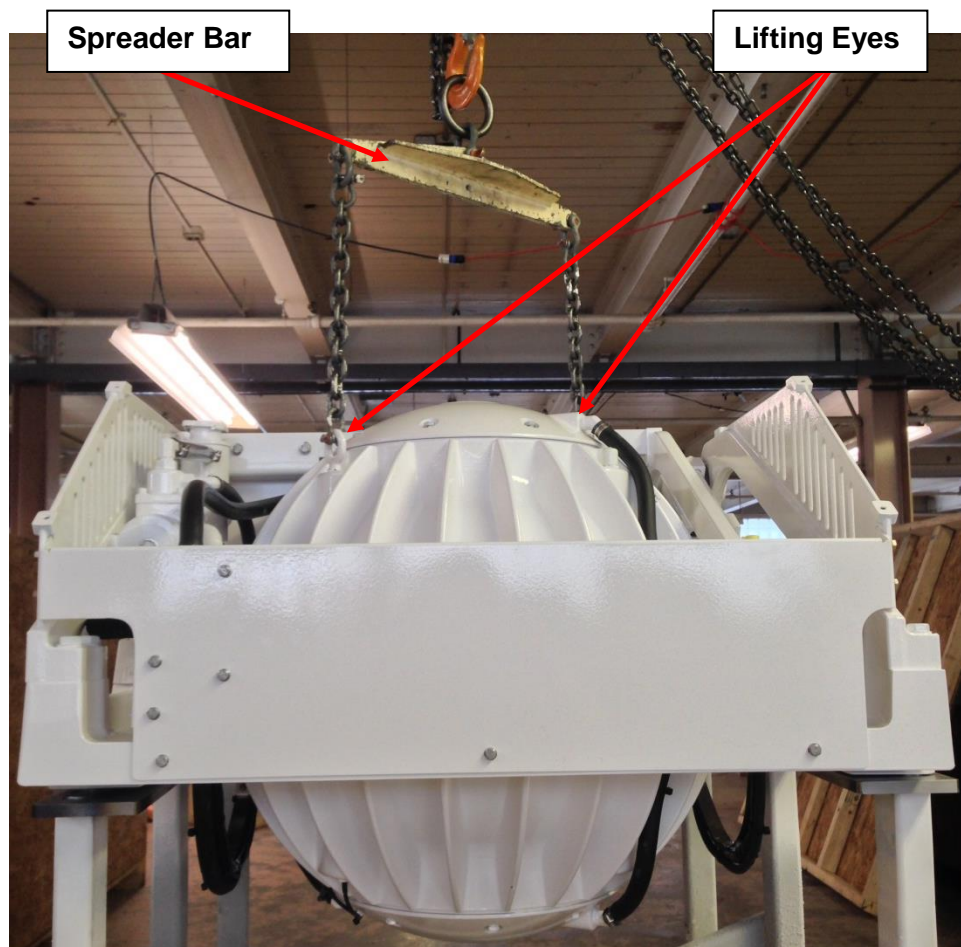

FIGURE 4 – LIFTING ARRANGEMENT
- 4) Attach spreader bar to the two lifting eyes located on the top of the Seakeeper enclosure. Stay clear of any other parts on the Seakeeper. The Seakeeper 9 weighs 549 kg (1210 lbs). See Figure 4 below.